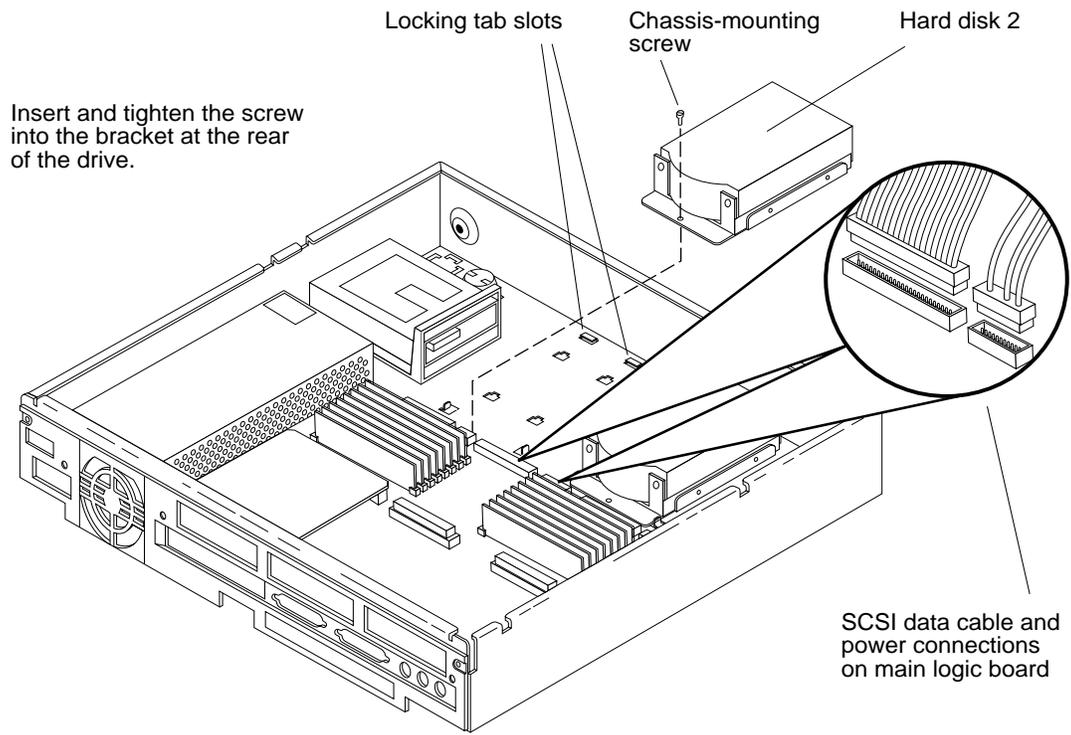

Figure 4-10 Removing and Replacing the Hard Disk Drive With the Metal Bracket
4. Grasp the hard disk drive mounting bracket handle (see Figure 4-10). Pull it up slightly to release the locking tabs on the bottom of the mounting bracket.
3. **Lower the drive into the chassis and align the four mounting tabs on the bottom of the drive mounting bracket with the slots in the bottom of the chassis (see Figure 4-10). The drive unit's data and power sockets should be facing the rear of the chassis. Slide the drive forward toward the front of the chassis until the two rear locking tabs click into their slots.**